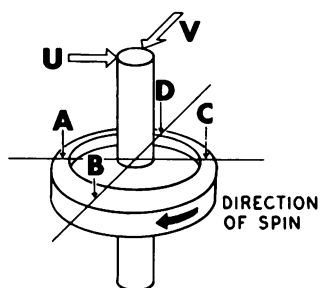

Figure 2B.
When answering items 21 through 25, assume that the gyroscope in figure 2B is mounted as a free gyro, and that the rotor is spinning.
21. Assume that a torque is applied in the U direction to the gyro in figure 2B, causing the gyro to precess so that the rotor tilts. At what point in the figure will the rim of the rotor move downward as a result of the gyro's precession?
22. Assume that a torque is applied in the V direction to the gyro in figure 2B, causing the gyro to precess so that the rotor tilts. At what point in the figure will the rim of the rotor move downward as a result of the gyro's precession?
23. How many degrees of freedom are possessed by the free gyro shown in figure 2B?
24. Suppose that the gyro shown in figure 2B is mounted as a rate gyro. How many degrees of freedom will it possess?
25. Which of the following modifications of the gyroscope shown in figure 2B will increase its rigidity in space?